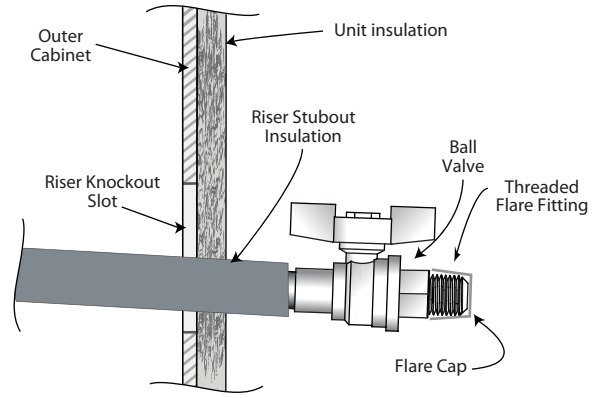

Figure 17
1. Carefully position the unit so that the riser ball valves penetrate into the unit through the riser slot making sure the insulation penetrates into the unit as shown in Figures 17 and 18.